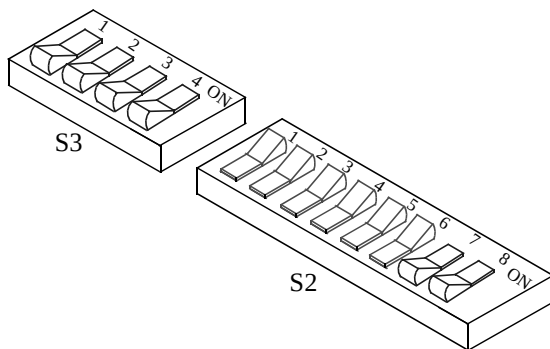

Figure 7-15 OLD HSDB SWITCH SETTINGS
1. Switch settings on the MPC for single-ended 5V (old style) operation are shown in Figure 7-15. S002 Sections 1-8 Off. S003 all sections On.